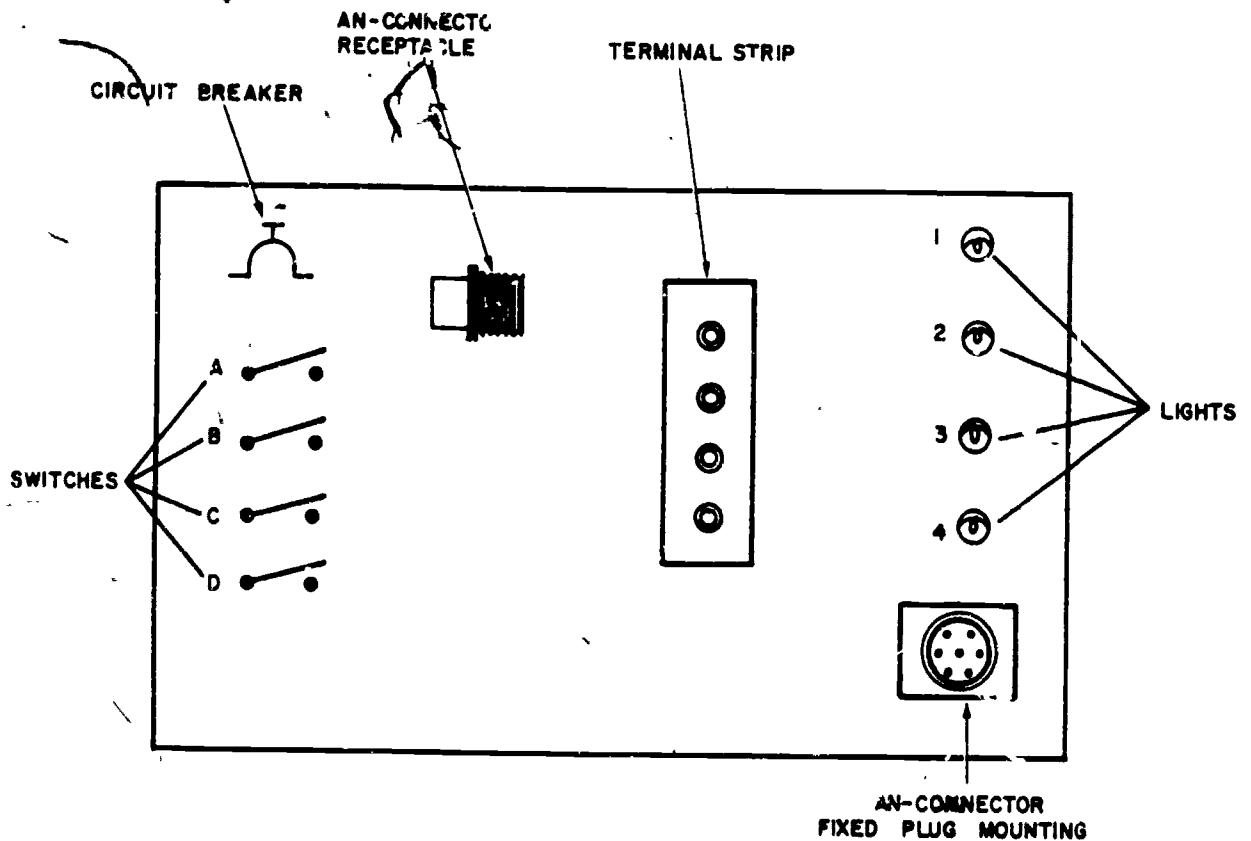
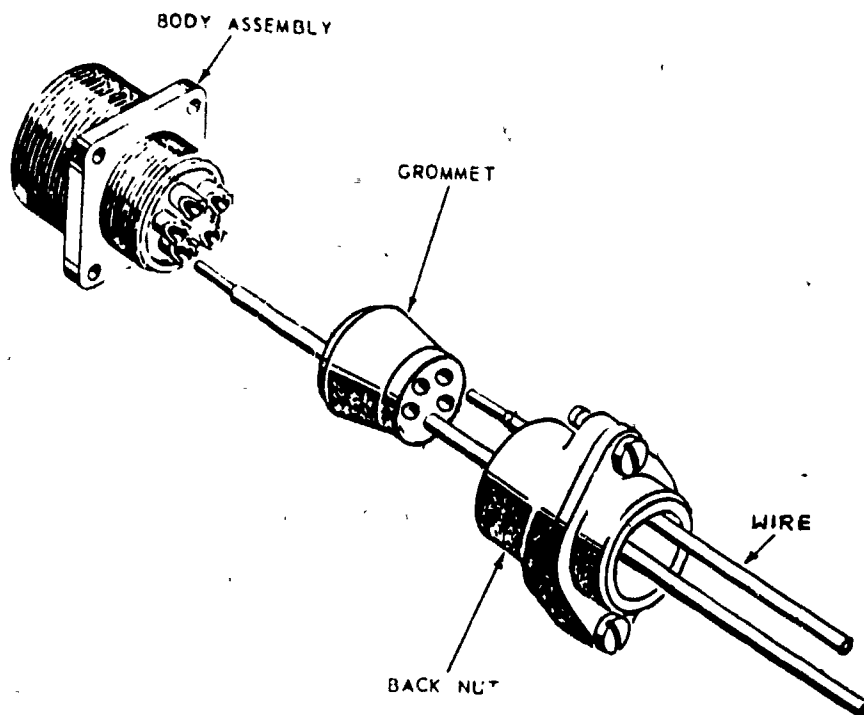

Figure 8. Wire Maintenance Trainer.
Figure 9.
a. Tell the instructor that you are ready to use the wire maintenance trainer (figure 8).
e. Refer to figure 9 and remove the grommet and back nut from the plug of the AN-connector.
k. Refer to figure 9 above. Slide the back nut about half way up the wires putting the tinned ends through first. Now push the tinned ends of the wires through the grommet so that the wires will line up with the pins. Push the grommet up the wires to the point where the one wire is spliced.
o. After the wires have been soldered to the AN-connector, reassemble the plug (see figure 9). Push the grommet down the wires to the body assembly. Push the back nut over the grommet and screw it onto the body assembly. Now remove it from the fixed plug mounting and connect it to the receptacle (see figure 8).
Take the AN-connector off the AN-receptacle and put it on the fixed mounting (see figure 8). Disassemble the AN-connector and unsolder the wires. Remove the wires from the back nut and grommet and reassemble the AN-connector.